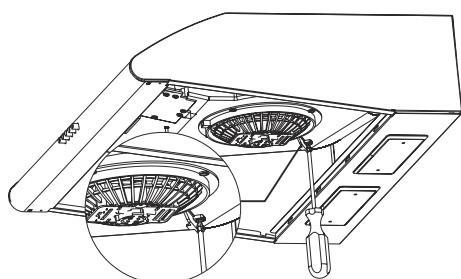

Fig. 7: short throttle
- ➔ Install the short throttle found in the installation accessories instead of the long throttle (Fig. 7).